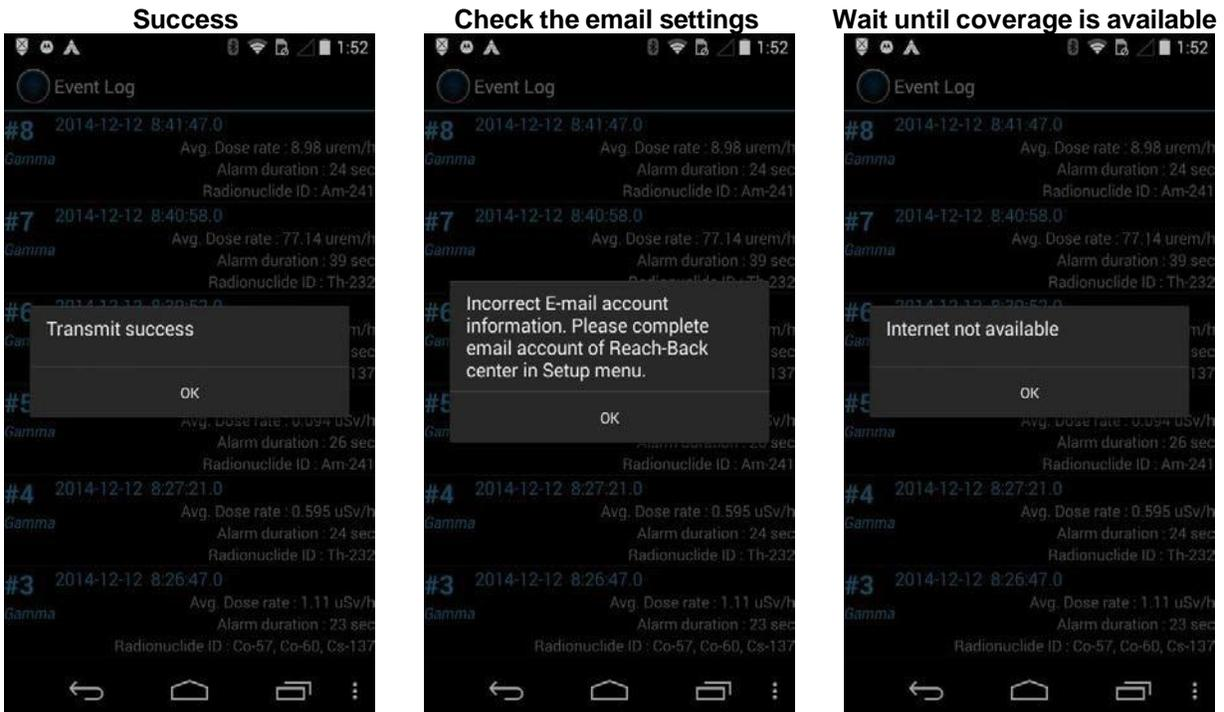

Figure 4.34. Transmission results messages
3. View the results (Figure 4.34)